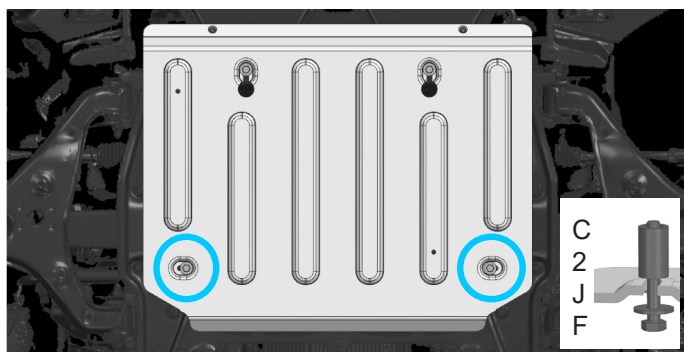

Fig. 7
7. Fix the back side of the skid plate 2 (item 2), using bolts M8x60, washers 8, spacers 30mm (item F, J, C), as shown in fig.7.